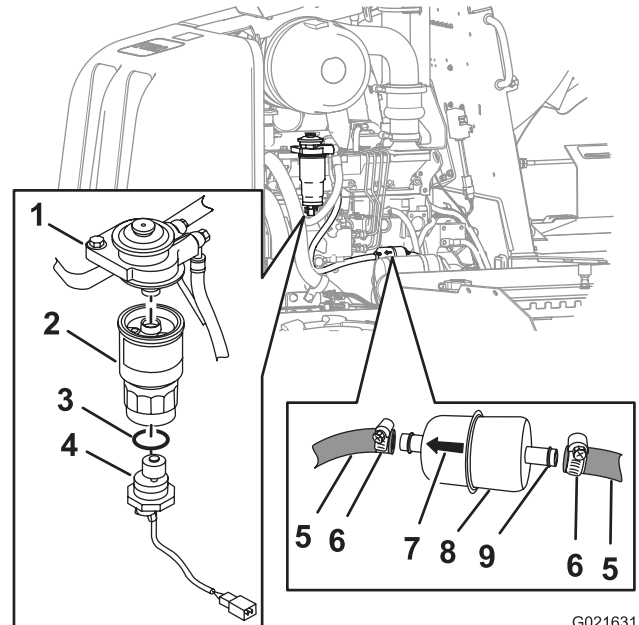

Figure 53
- C. Firmly grasp the secondary fuel-filter element, rotate the water sensor counterclockwise, and remove the water sensor (Figure 53).
- D. Firmly grasp the secondary fuel-filter element, rotate it counterclockwise, and remove it from the filter adapter (Figure 53).
- B. Align the new secondary filter element to the filter adapter (Figure 53).
- D. Slip the new O-ring over the water sensor (Figure 53).
- E. Align the water sensor to the bottom of the secondary fuel filter (Figure 53).
- F. Firmly grasp the secondary filter element, and rotate the water sensor clockwise until it is hand tight (Figure 53).
3. Loosen the hose clamps and separate the primary fuel filter from the fuel hoses (Figure 53).
4. Align the new primary fuel filter to the hoses with the arrow printed on the filter pointing forward (Figure 53).
5. Slip the hoses over the hose fitting of the primary fuel filter, and tighten the hose clamps (Figure 53).